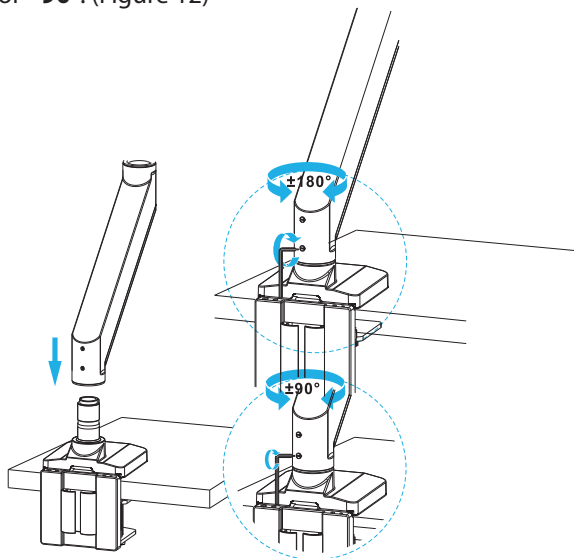

Figure 12
1. Insert the **Swivel Arm** onto the **Base**. (Figure 12)
2. Use the **3mm Hex Key with Flat Screwdriver** to tighten only the bottom **Screw** to allow the **Swivel Arm** to rotate $\pm 180^\circ$ or tighten both **Screws** to allow the arm to rotate $\pm 90^\circ$. (Figure 12)